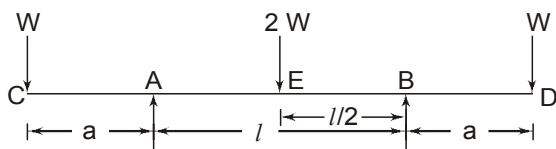

Fig. 3
8. (a) For the beam shown in Fig. 3, find deflection at the free end and the middle of span. (15)